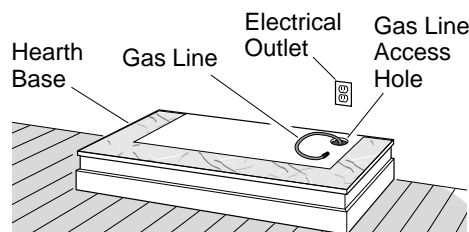

Figure 9 - Placing Hearth Base Accessory Against Wall
2. When installing blower, install a properly grounded, 120 volt three-prong electrical outlet at fireplace location if an outlet is not there. If possible, locate outlet so cabinet mantel will cover it when installed (see Figure 9).
- Place hearth base accessory against wall at installation location. Cut an access hole in hearth top to run gas line to fireplace (see Figure 9, page 8). Make sure to locate access hole so cabinet mantel will cover it when installed. **Note:** You can secure base to floor using wood screws. Countersink screw heads and putty over.